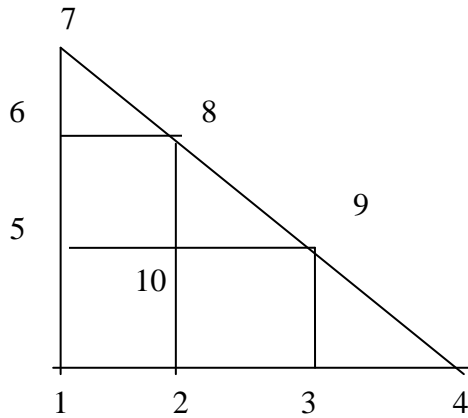

Figure 1a
3. (a) Clearly define THREE (3) differences between a triangular and rectangular finite element in plane elasticity. (5 marks)
- (b) Two plates shown in Figure 1a and 1b, shall be analysed as a plane strain problem. The meshes that shall be employed are using 6 and 12 elements respectively. Each nodes has been labelled accordingly. Calculate the bandwidth, $B = (R+1)$ NDOF for the plate assuming two degrees of freedom at each node. (5 marks)